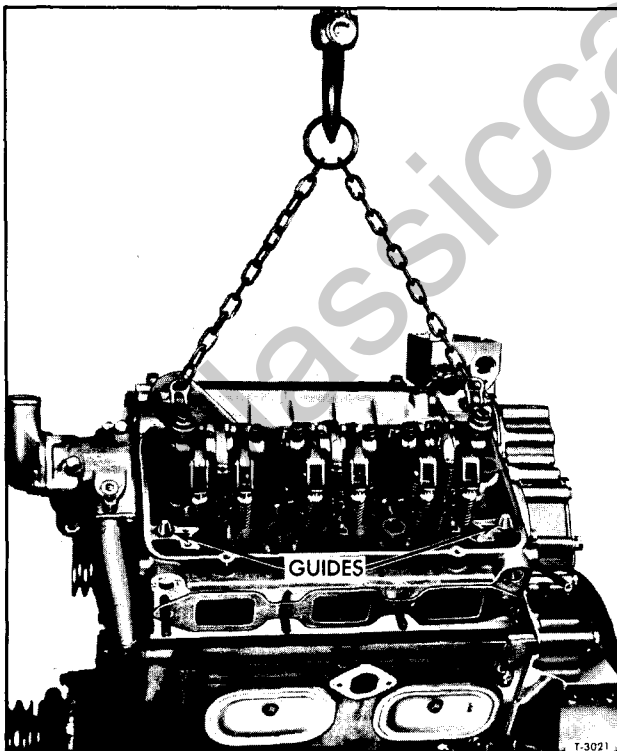

Figure 17—Installing Cylinder Head on Engine
CYLINDER HEAD INSTALLATION (Fig. 17)
3. Install guide studs (fig. 17) in head bolt holes in cylinder block to ensure positive location of head without disturbing seals and gasket.